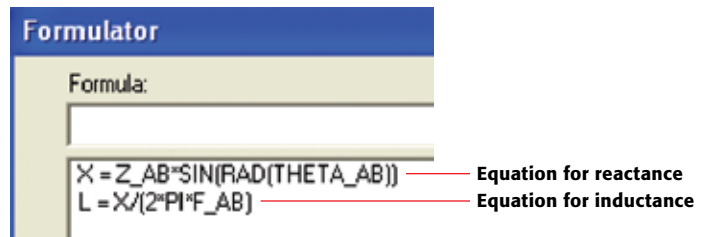

Figure 2
3. Open the Formulator and type in the formula for the reactance using the Data Series parameters Z, Theta, and F. The units for “Theta” are in degrees. To use the trigonometric functions in the Formulator, you must convert the units to rads using the “RAD” function as shown in **Figure 2** for a device with terminals A and B: